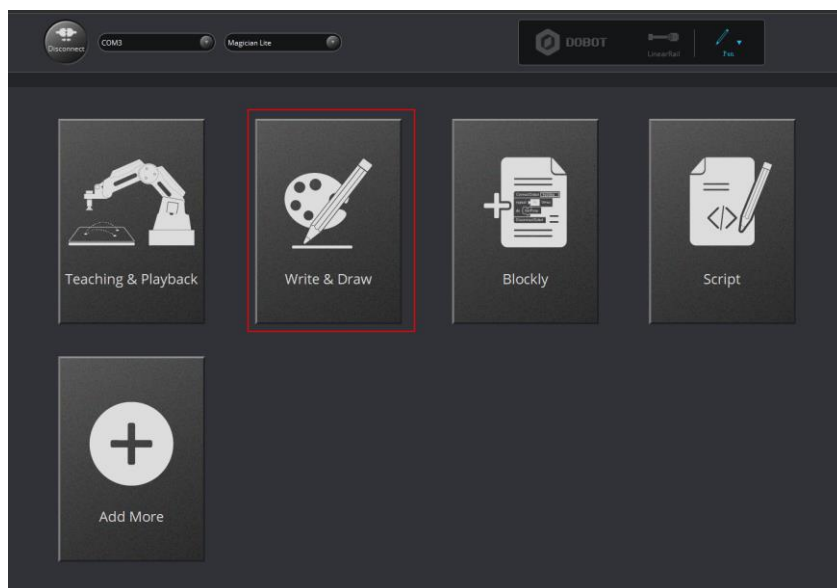

Figure 5.40 Click Write & Draw
Step 1 Click **Write & Draw** on the **DobotStudio** page, as shown in Figure 5.40.